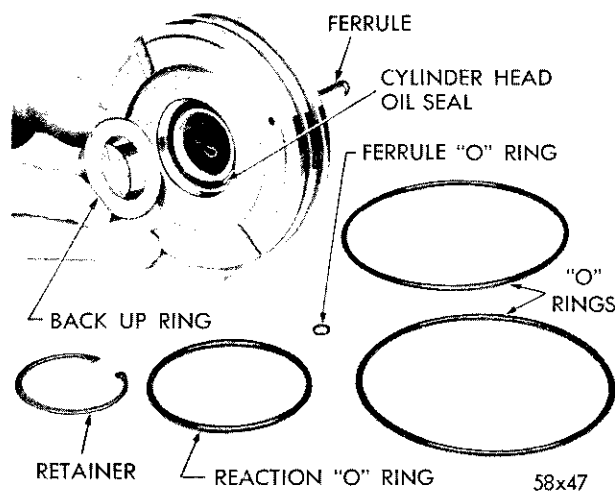

Fig. 34—Removing Cylinder Head Seal
(3) Inspect the worm shaft seal in the cylinder head counterbore for possible damage; replace the cylinder head seal if necessary (Fig. 34).